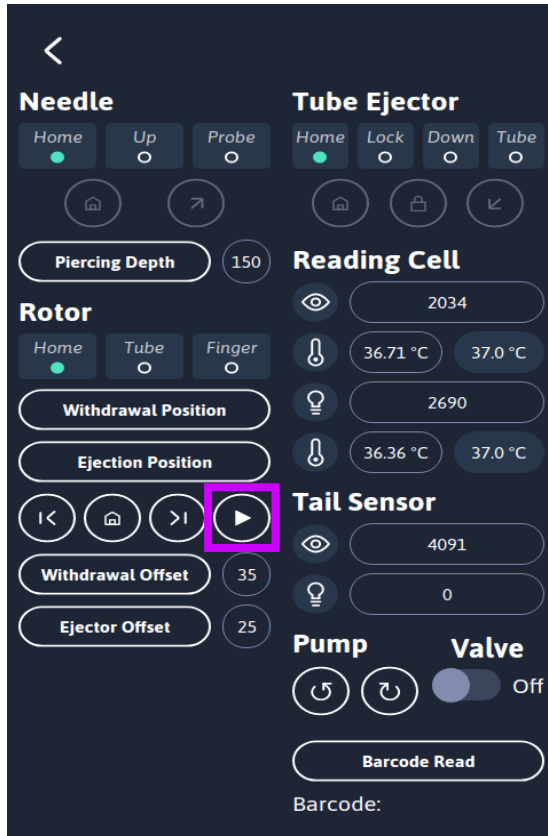

Figure 9
7. Press the “Play” button once on Robotics Control page as highlighted in pink square in Figure 9. The Rotor keeps on spinning. Keep it running for 2-3 secs. Press it again, bringing the Rotor to Home position. The “Home sensor” lights green once Rotor is at Home position.